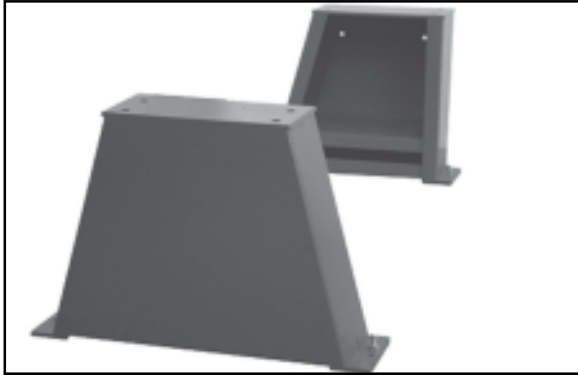

Fig.2B
1. Remove the two stand legs from the carton and position them approximately 54" apart (Fig. 2A) measuring from the outside edges. Be sure that the shelves are facing inward and that the double flared leg is on the left. (Fig. 2B)